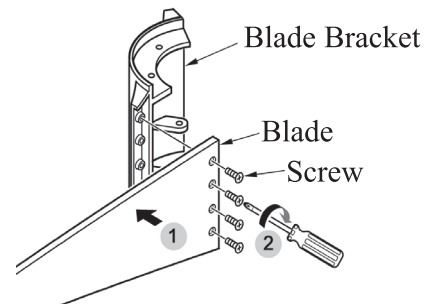

FIG.1
1. Attach each blade to the blade bracket using the blade screws. Tighten them securely. (See fig.1)